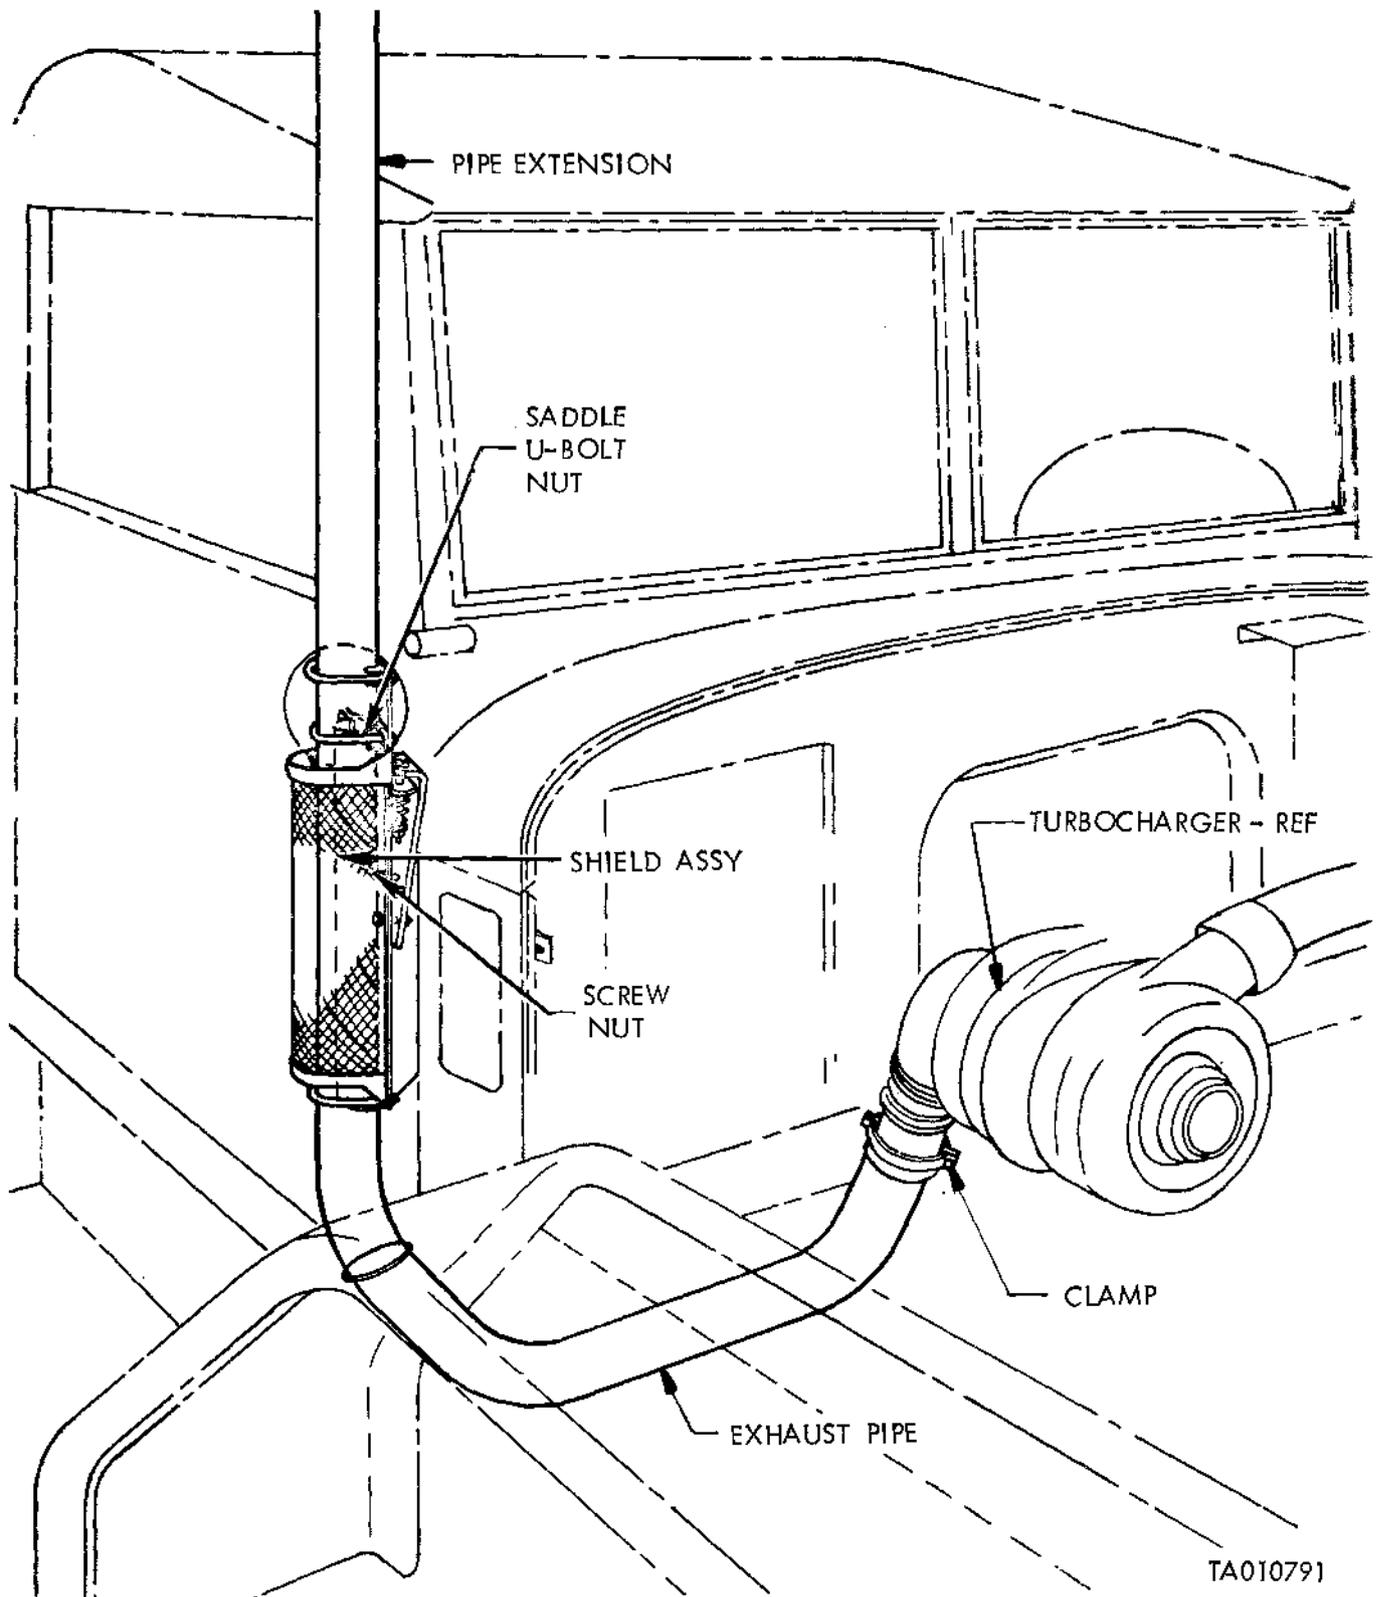

Figure 2-122.1. Vertical Exhaust Stack—Diesel Models.
a. Removal (fig. 2-122.1). Refer to paragraph 2-107 *a* for a similar procedure.